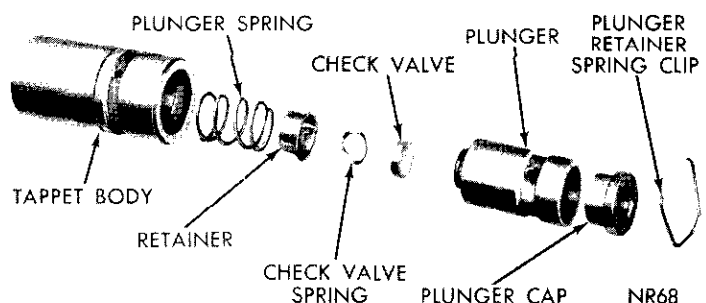

Fig. 16—Hydraulic Tappet Assembly (Disassembled View)
Disassembly (Fig. 16)
(1) Clean all tappet parts in a solvent that will remove all varnish and carbon.
(2) Replace tappets that are unfit for further service with new assemblies.
(3) If plunger shows signs of scoring or wear and valve is pitted, or if valve seat on end of plunger indicates any condition that would prevent valve from seating, install a new tappet assembly.
(4) Assemble tappets (Fig. 16).